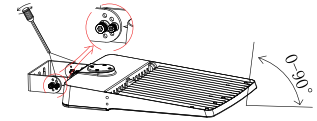

Figure 3-4
Step4: If the installation angle of the fixture needs to be adjusted, loosen the screws of the bracket, and fix them again after finished adjustment, Figure 3-4;